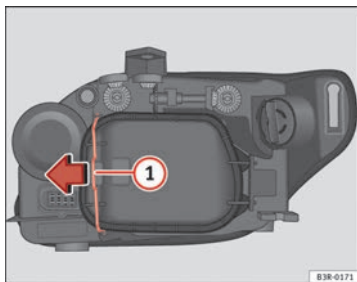

Fig. 193 Dipped beam headlights
Although it is not necessary, previously remove the rigid cover → fig. 193 for easier turn signal bulb changes. ■
- Move the brace ⇒ fig. 193 ① in the direction of the arrow and remove the rigid cover, separating the brace side and then removing the two tabs from the other end of the cover.